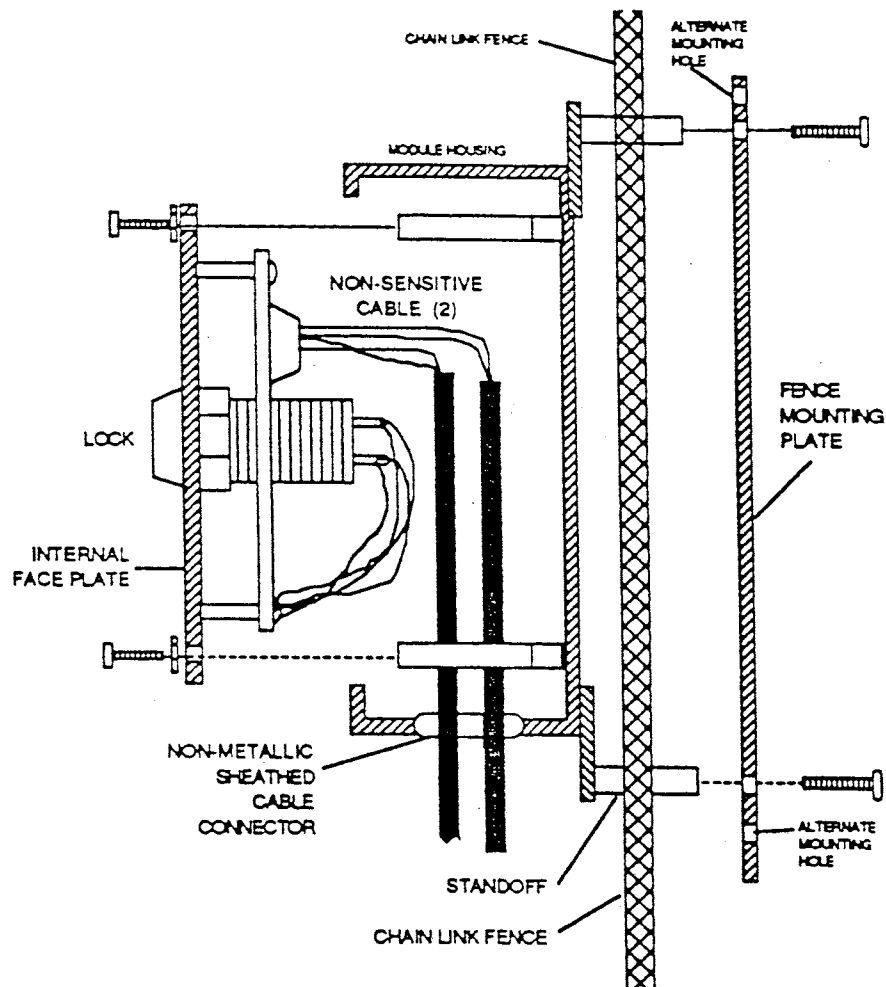

Figure F-1. Local Gate Bypass Module
1. Mount module housing. Refer to Figure F-1.
5. Install internal face plate with 2 screws provided. Refer to Figure F-1.
6. Install the waterproof flip-top cover with 2 screws provided. Refer to Figure F-1.